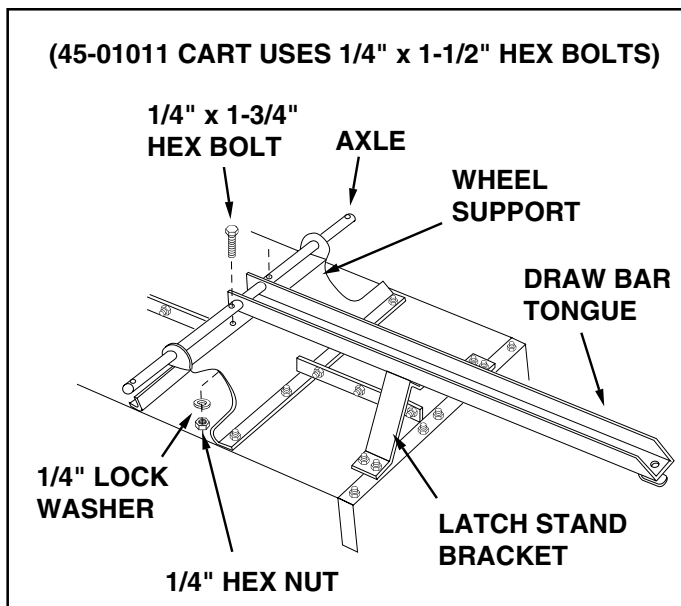

FIGURE 11
13. To prevent accidental tipping during the following assembly procedures, lower the cart to rest upside down on its top flanges, so that the wheel support is facing up. See figure 11.
16. Assemble the axle and drawbar tongue to the wheel support, with the open side of tongue facing up, away from the cart. Make sure the latch lock snaps over the top of the latch stand bracket. Fasten the axle to the wheel support using two 1/4" x 1-3/4" hex bolts, lock washers and hex nuts. **Tighten.** See figure 11.